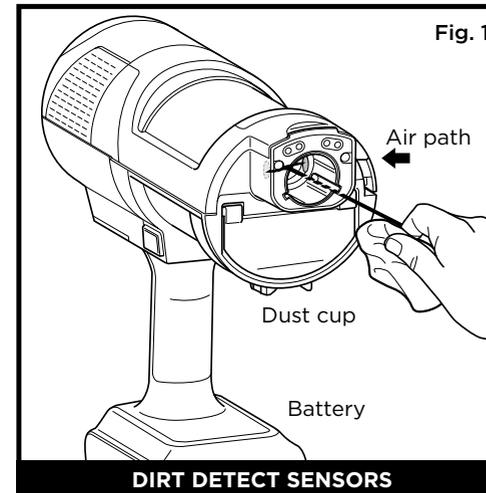
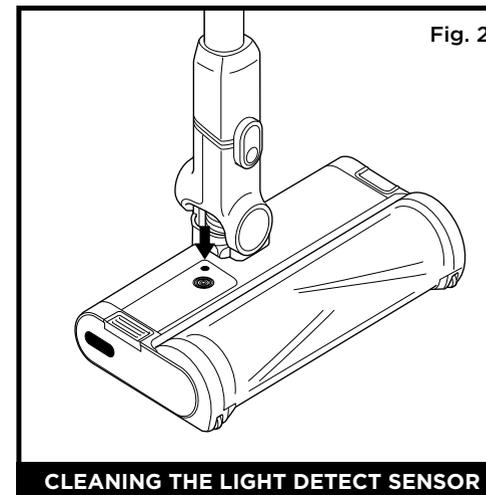

Fig. 1
Fig. 2
2. Locate the Dirt Detect sensor in the nozzle of the hand vac (Fig. 1), the Light Detect™ sensor on the top of the nozzle (Fig. 2), and the Edge Detect sensor on the side of the nozzle (Fig. 3).